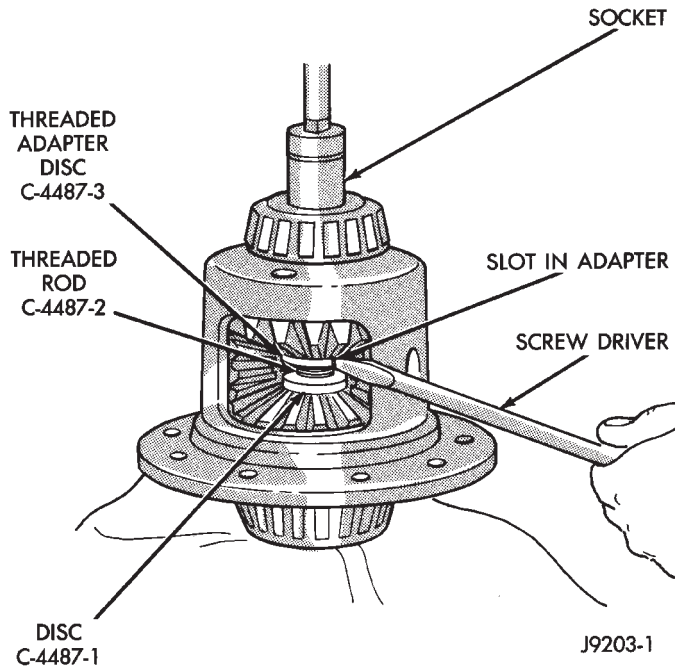

Fig. 10 Threaded Adapter Installation
(8) Position a small screw driver in slot of Threaded Adapter C-4487-3 (Fig. 10 to prevent adapter from turning.